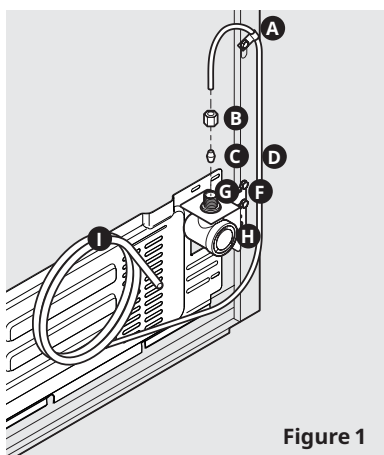

Figure 1
4. If you use copper tubing - Slide brass compression nut, then ferrule (sleeve) onto water supply line. Push water supply line into water valve inlet as far as it will go (¼"/6.4 mm). Slide ferrule (sleeve) into valve inlet and finger tighten compression nut onto valve. Tighten another half turn with a wrench; DO NOT overtighten. See Figure 1.